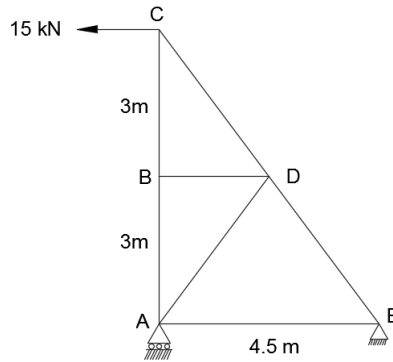

Fig.2
2. (a) Determine the forces in all the members of a truss shown in **fig.2** by method of joints and **14M**